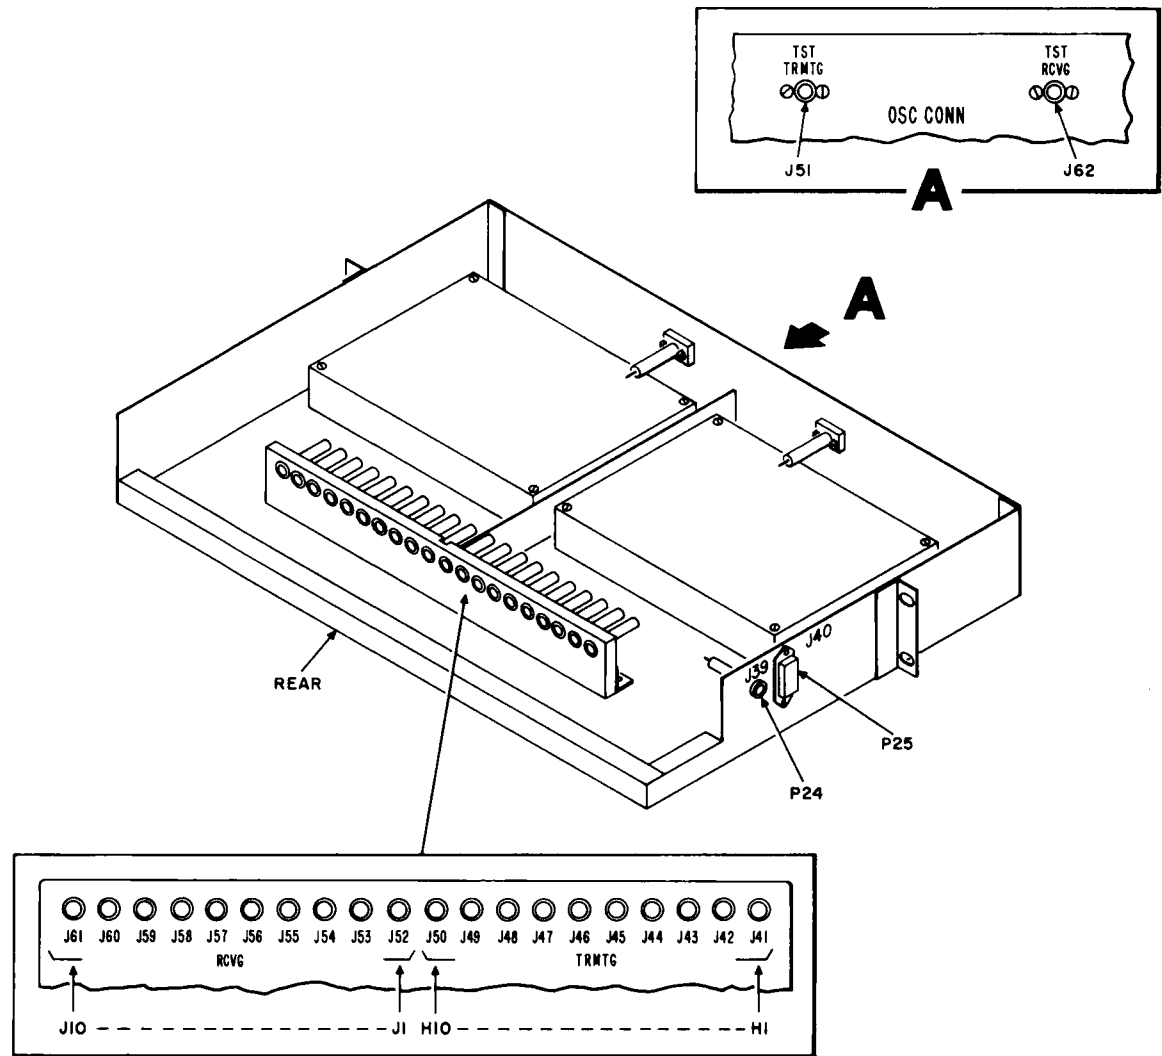

Fig. 19—B Equalizer Test Signal Connecting Panel J68877BC
Note: This assembly produces the ten B equalizer test signals. These signals are connected to the proper B equalizer via the J68877BC panel (Fig. 19). Maintenance consists of either removing and replacing the entire assembly or replacing one or more of the plug-in 70-type crystal oscillators. A performance test includes measurement and, if necessary, adjustment of each of the ten equalizer test signals.
C. B Signals Connecting Assembly J68877BC (Fig. 19)